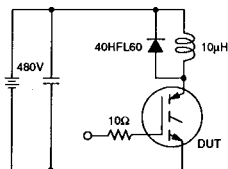

Fig 12a. Clamped Inductive Load Test Circuit
- ② $V_{CC} = 80\% (BV_{CES})$, $V_{GE} = 20V$, $L \geq 10\text{ }\mu\text{H}$, $R_G = 10\Omega$, (See figure 12a)